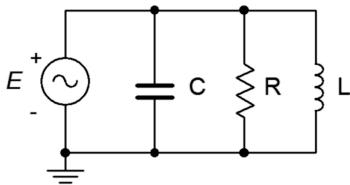

Figure 3.22
39. Determine a value for C such $|X_C| = |X_L|$ for the circuit shown in Figure 3.22. The source frequency is 1 kHz, $R = 200\ \Omega$ and $L = 50\ \text{mH}$.
42. Determine a value for C such that the impedance angle for the circuit shown in Figure 3.22 is purely resistive (0 degrees). The source frequency is 1 kHz, $R = 200\ \Omega$ and $L = 50\ \text{mH}$.